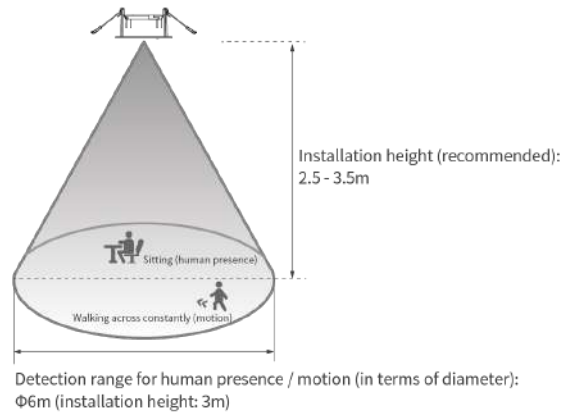

Figure 11
- The detection range data (shown in Figure 11) are for reference only and come from internal laboratory tests. There may be differences in results depending on installation environment, human presence and sensitivity.